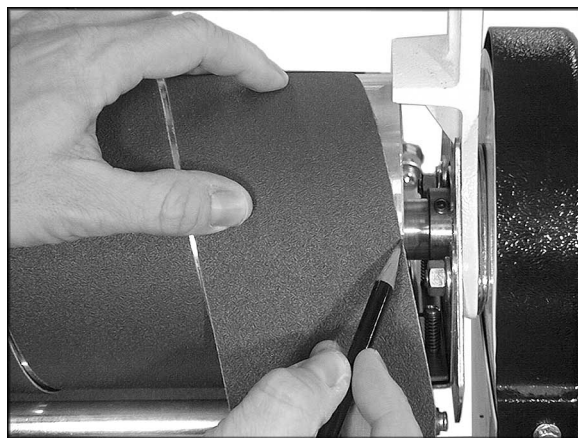

Figure 14
5. Mark the trailing end of the strip where it crosses the right (inboard) end of the drum (Figure 14).